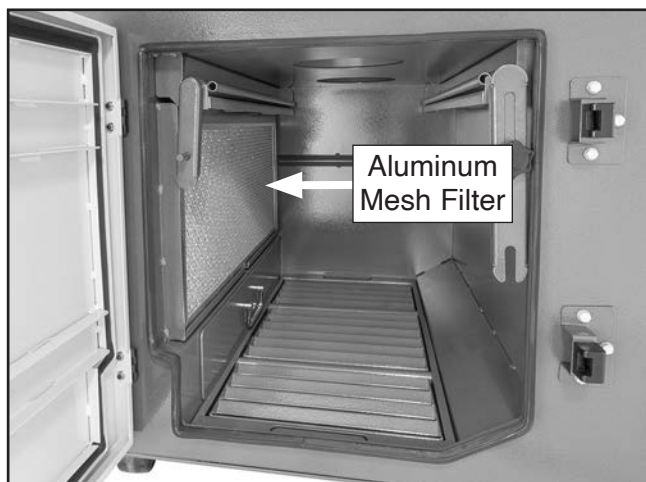

Figure 52. Location of aluminum mesh filter.
6. Move aluminum mesh filter up in order to remove it from machine (see **Figure 52**).